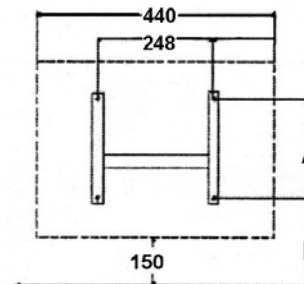

Fig.2
- Fix wall bracket securely to wall via the three or four holes in the bracket with the appropriate fixings for the wall type (see Fig.2)